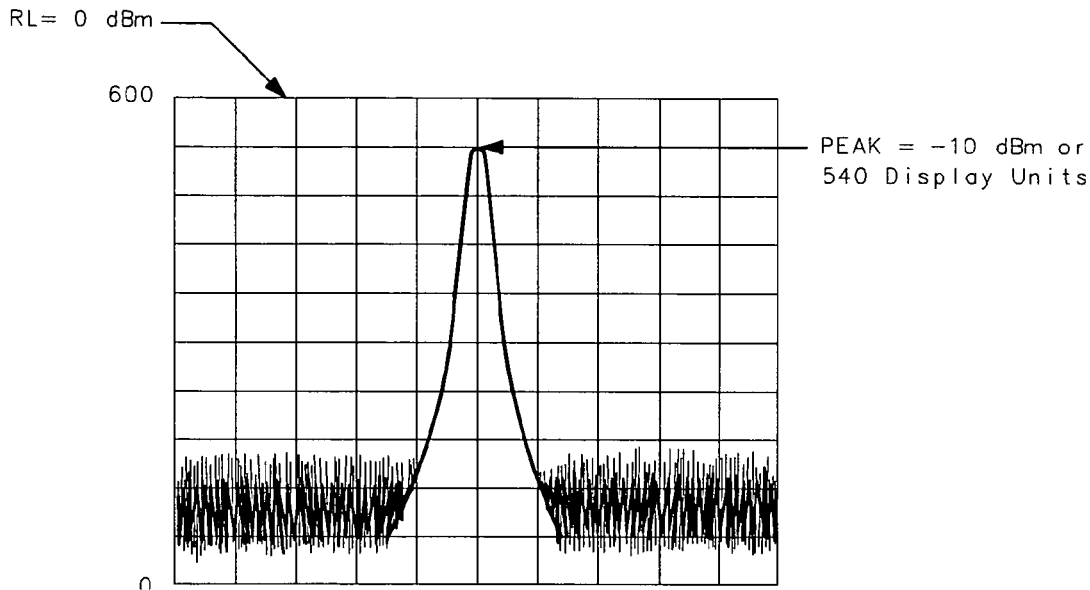

Figure 4-5. Data Transferred in TDF M Format
The measurement units (M) format transfers trace data as ASCII integer values in measurement units, which is the internal format used by the spectrum analyzer. See Figure 4-5. The displayed amplitude of each element falls on one of 601 vertical points (with the 601st equal to the reference level). For example, the peak of the signal in Figure 4-5 is equal to -10 dBm, or one division below the reference level. This is equal to 540 measurement units (600 measurement units at the reference level, less 60 measurement units for one division down, equals 540 measurement units). There are also ten additional points of overrange. Measurement units, then, range from 0 to 610.